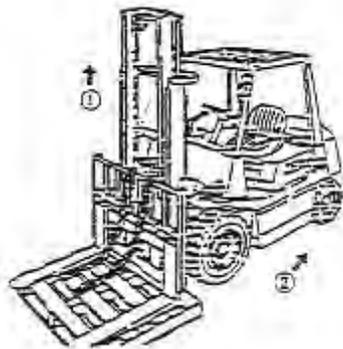

Figure 2-73
- (1) Place a pallet on fork and park forklift on level ground.
- (2) Lowering fork and pallet on ground.
- (3) Dismantle the top side connector of chain, and take of the chain from chain wheel
- (4) Lift inner mast (refer to ① of figure 2-73)
- (5) Dismantle joint of upper end of chain and take off chain from chain wheel. (refer to ② of figure 2-73)
- (6) Replace main roller.